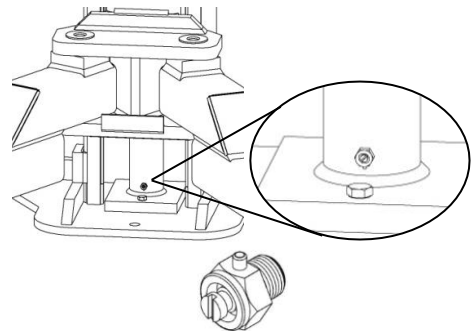

FIGURE 12 : AIR BLEEDER
3. AT THE BOTTOM OF THE SLAVE COLUMN : WITH A FLAT SCREWDRIVER, UNSCREW (COUNTERCLOCKWISE) OF 1/2 TURN THE AIR BLEEDER. SEE **FIGURE 12**.